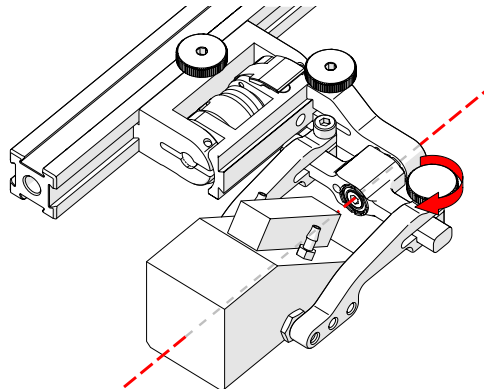

Fig. 68 - Pinch wedge with arm
9. Tighten the probe holder arm adjustment knob (Fig. 68).